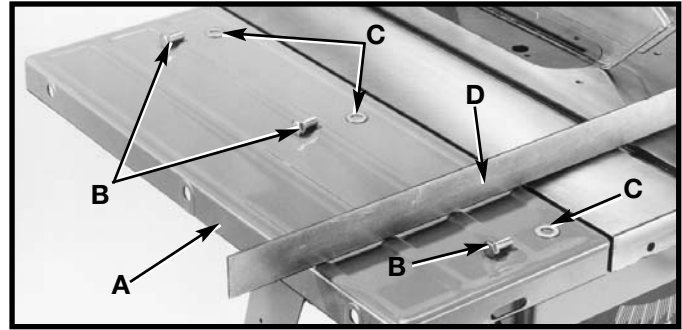

Fig. 35
1. Assemble extension wing (A) Fig. 35, to the saw table using three 7/16-20 x 3/4" bolts (B) and flat washers (C).
2. With a straight edge (D) Fig. 35, make certain the extension wing (A) is level with the saw table before **tightening three bolts (B)**.